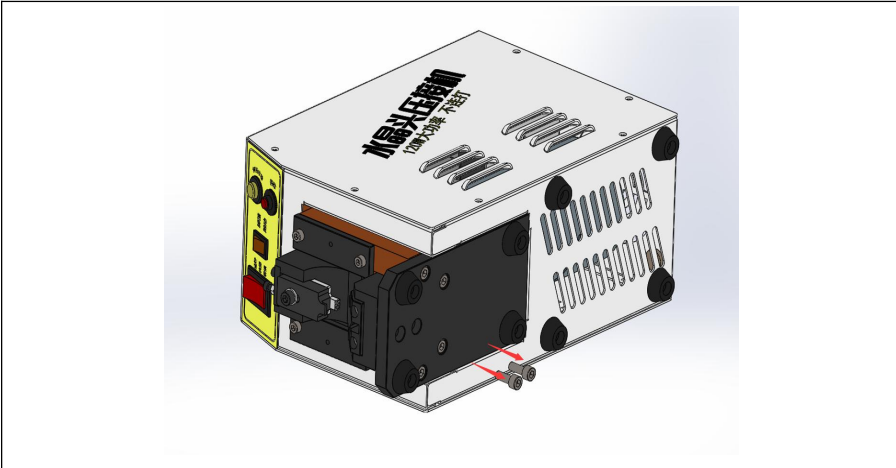

Figure 9. Loosen and remove the tightening screw at the bottom of equipment
1. Firstly place the equipment upside down(as shown in Figure 9), then loosen and remove the tightening screw at the bottom of equipment.